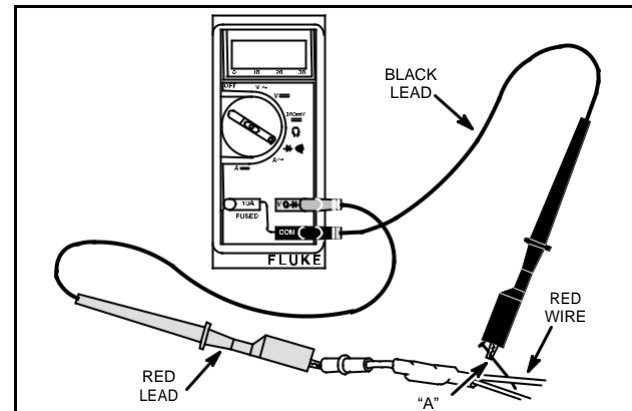

Fig. 20 – Diode Testing – Charging Circuit
4. Attach BLACK test lead clip to point “A,” Fig. 20. (It may be necessary to pierce wire with a pin as shown.)